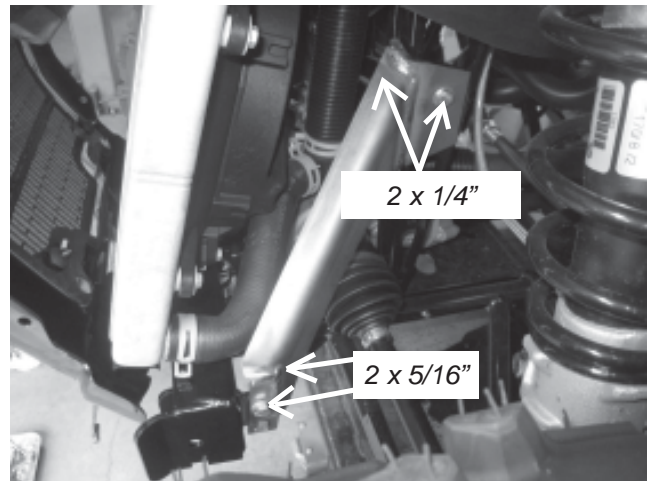

Figure 7
8. Install Part C (2X). Place each side of Part C against the outside of the tabs of Part A. Place (2) 5/16" x 1" bolts through each side and secure with a 5/16" washer and 5/16" nylock nut. Do not tighten. Align the holes in the top of Part C with the holes on the upright frame rail of the vehicle. Place a 1/4" x 3/4" bolt through each hole. Secure the front bolts with a 1/4" nylock nut, and secure the side bolts with a 1/4" washer and a 1/4" nylock nut, see Figure 7. Tighten the 4 bolts to torque specified in Section III.